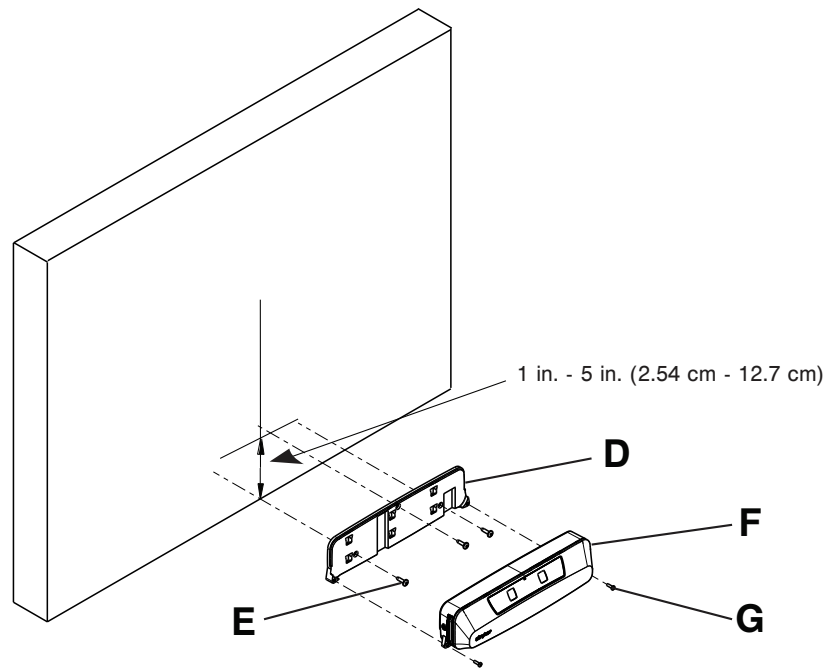

Figure 2 – Mounting specifications
3. Using a #2 Phillips screwdriver, remove the two screws (G) that secure the **Secure Connect** (F) to the mounting plate (D) (Figure 2). Save the two screws.